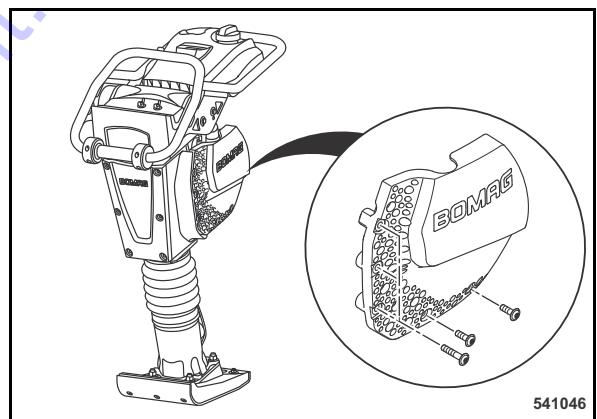
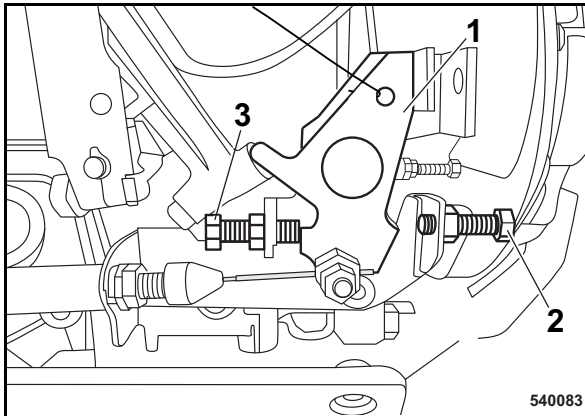

Fig. 70
Fig. 71
- Remove the protection grid on the left hand side of the engine (Fig. 70).
- Adjust the idle speed using the rear stop screw (2) on the engine speed control lever (1) (Fig. 71).
- Adjust the maximum speed by the front stop screw (3).
- Reassemble the protection grid on the left hand side of the engine (Fig. 70). Retighten the fastening screws with a tightening torque of 25 Nm (18 ft.lbs).